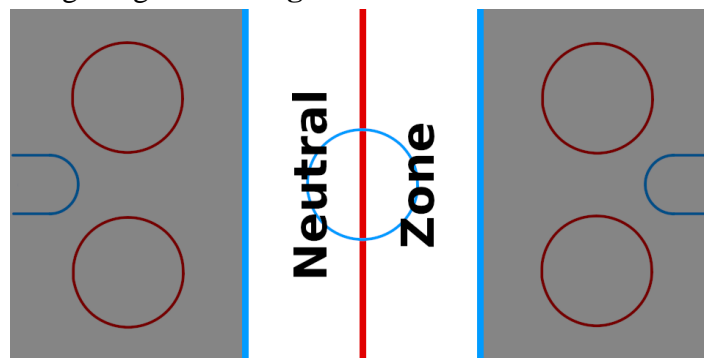

Figure 5: Neutral Zone
- b. An additional 50 point bonus can be achieved if a successful goal is achieved with the black puck from any position in the neutral zone (the center area of the track between and including the blue lines). The robot may break into the vertical plane of the blue neutral zone lines while making the goal however, the robot cannot break past the vertical plane of the blue neutral zone lines while making the goal. See **Figure 5** for more detail.